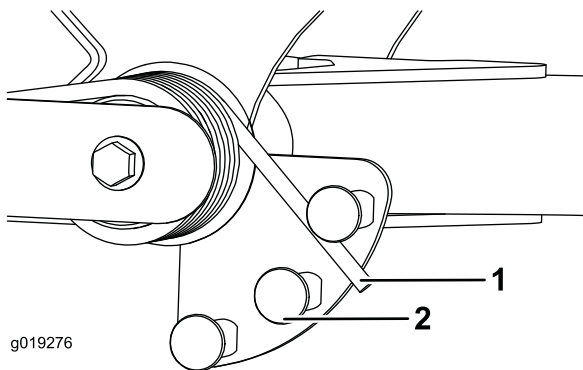

Figure 33
- Insert a tube or similar object onto the long spring end and pivot it around the spring actuator to the desired position (Figure 33).